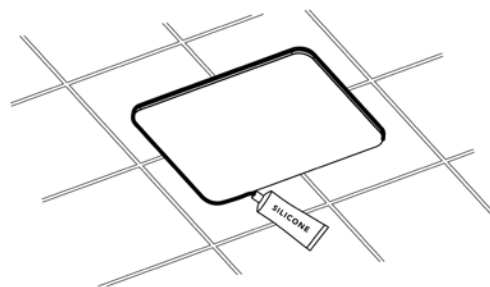

Figure 14
5. Apply a bead of silicone around the perimeter of the fixture (Figure 14) as required to create a moisture seal between the fixture and the steam room ceiling. Use tape or other means as required to keep the fixture in position as the silicone cures.